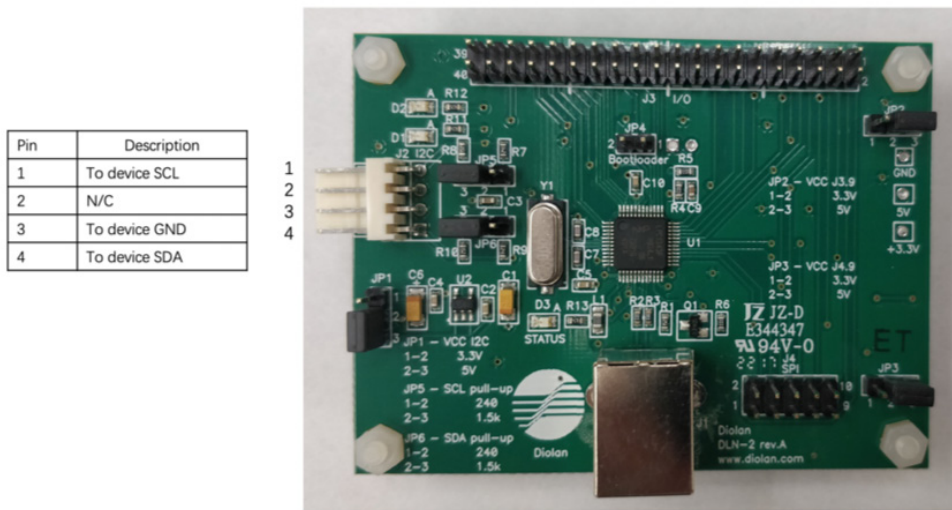

Figure 2
- Connect the SDA and SCL pins of the Posifa evaluation board to the DLN-2 adapter board (see Figure 2)